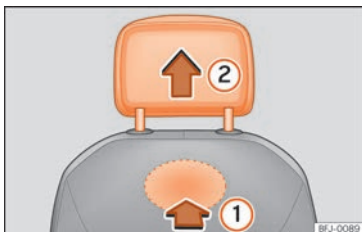

Fig. 96 Front head restraint: removal.
- To unlock it, look for the ratchet on the bottom of the backrest and press in the direction of the arrow **>>>** Fig. 96 ①.
- Remove the head restraint in the direction of the arrow ②.